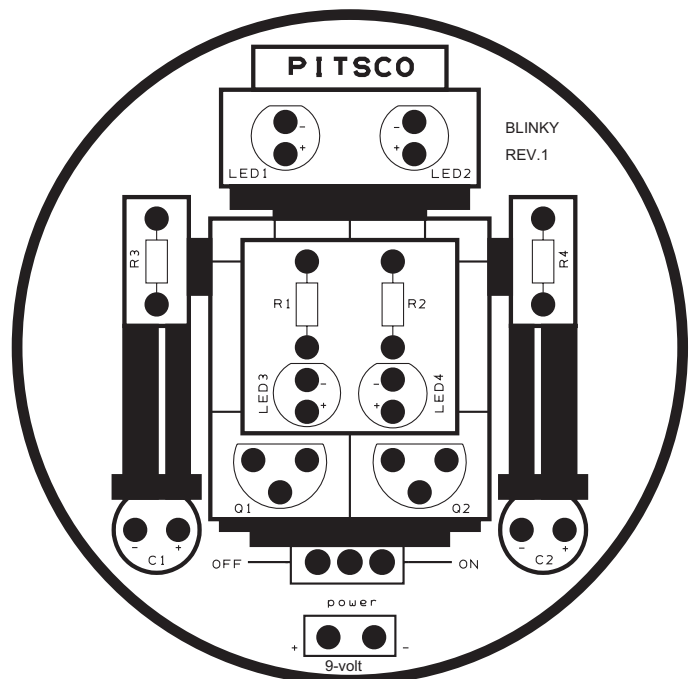

Figure 4 – Circuit board face up
3. Place the board in front of you with the picture of the robot facing up (Figure 4).